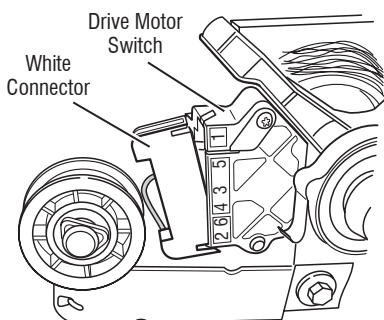

Figure 8 - Remove white connector
9. Check the wiring and continuity from the L2 terminal of the terminal block and the 2M terminal in the white connector from the Motor, see figure 8 on Page 15. **NOTE:** To access motor system components, refer to Dryer Disassembly Instructions, page 24.
8. Remove the white connector from the drive motor switch. See figure 8.